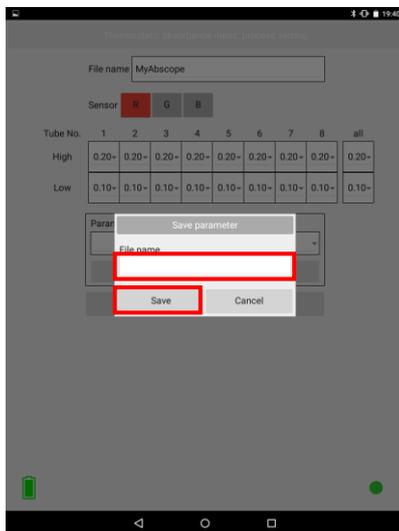

Figure 4-5: Parameter save screen
To save the parameters, tap the parameter file save button (6) in Figure 4-2, enter the file name on the save screen shown in Figure 4-5, then tap “Save.” If you tap “Cancel,” the file is not saved.